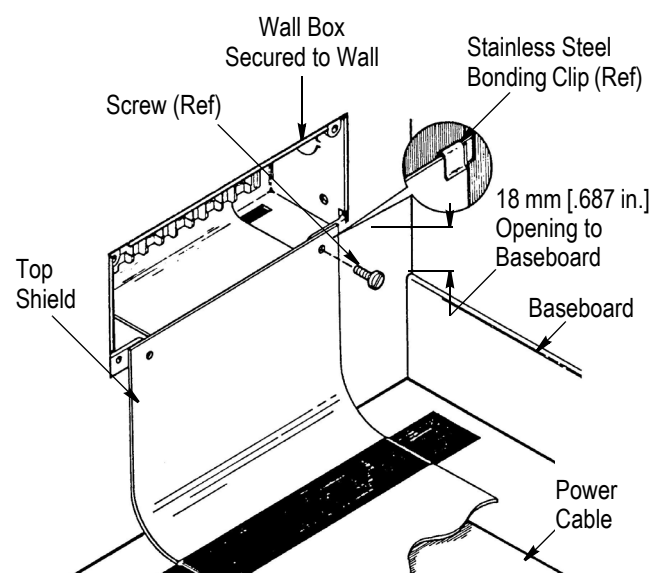

Figure 2
3. Cut an opening the size of the wall box in the wall. Position the opening at least 18 mm [.687 in.] above the baseboard to allow clearance for installing the cover. Refer to Figure 2.
Attach the top shield to the wall box using the stainless steel bonding clips or two 8-32×3/8-in. screws (customer supplied). Refer to Figure 2.
If installing power cable on the outside of the wall, the power cable and top shield should be concealed behind the baseboard. Refer to Figure 2.